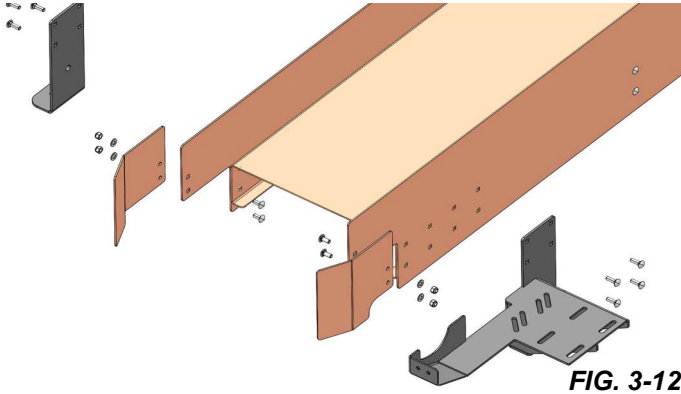

FIG. 3-12
1. Install the conveyor side panels and feet as shown in FIG. 3-12.